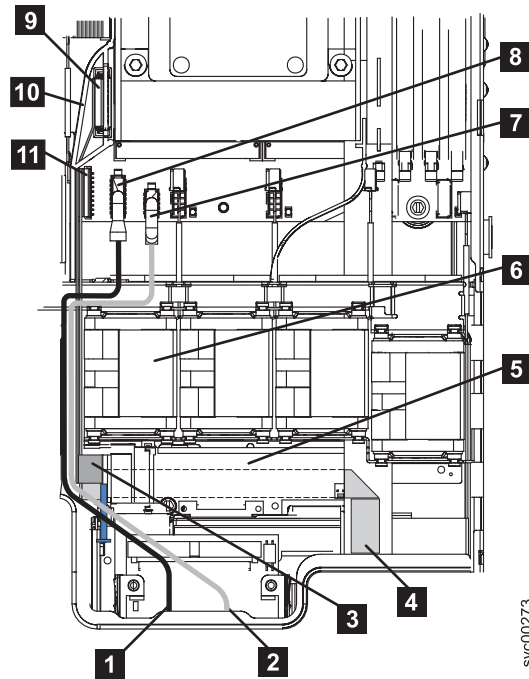

Figure 155. Unplugging the video, USB, and the CD/DVD cables
7. Unplug the video cable **8**, the USB cable **7** and the CD/DVD cable **9** from the system board. There is no need to completely remove these cables. Unplugging them makes it easier to maneuver the light path ribbon cable **4**. In Figure 155 on page 171, the front of the node is at the bottom of the illustration.